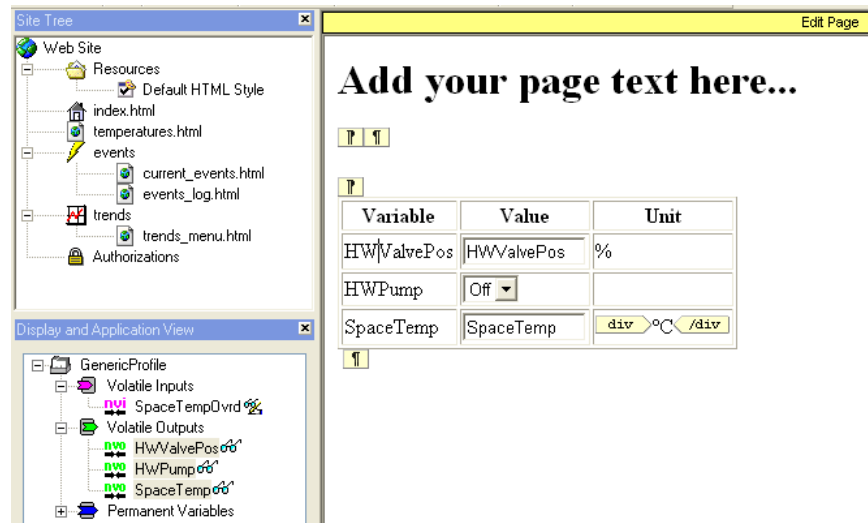

Figure 183: Inserting a Table from the Display View
2. Edit the table as desired (Figure 183).